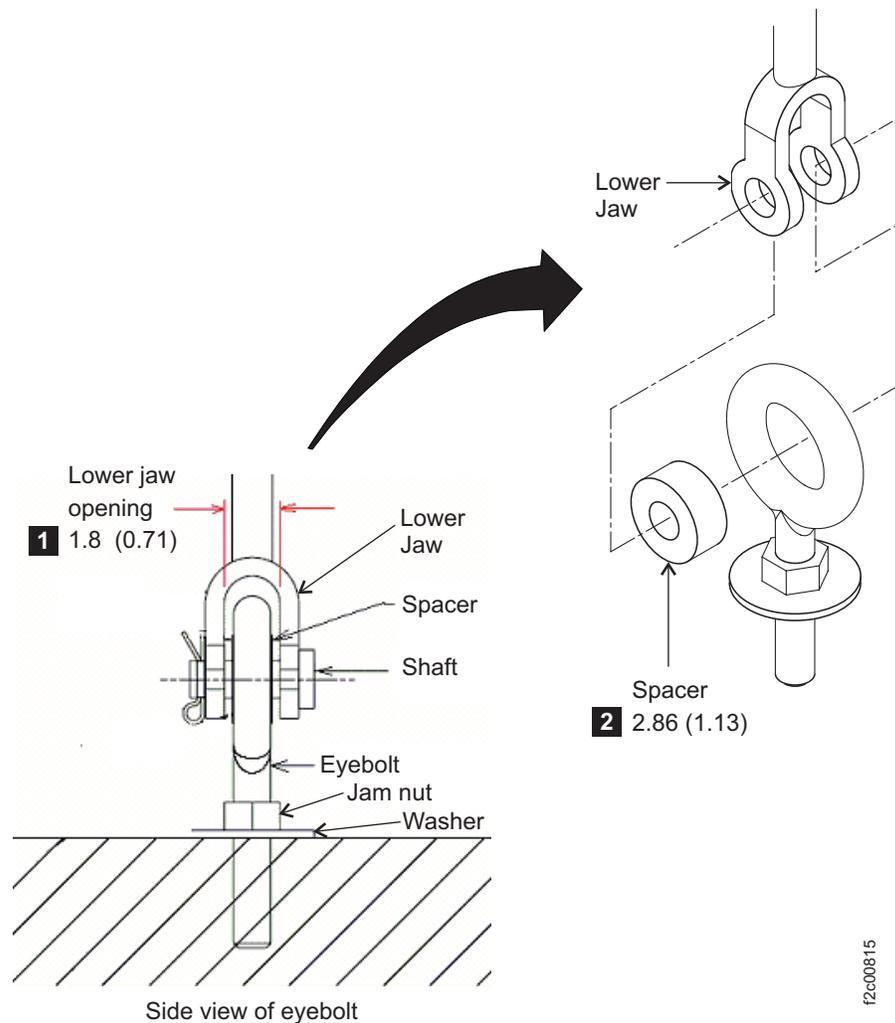

Figure 25. Eyebolt required dimensions. Dimensions are in millimeters (inches).
- The dimensions of the eyebolt must allow the turnbuckle lower jaw of the kit to fit over the eyebolt (**1** on Figure 25 on page 157) and allow the spacer of Earthquake Resistance Kit to fit inside the eye (**2** on Figure 25 on page 157).